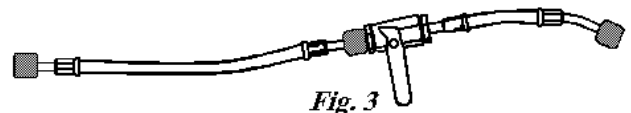

Fig. 3
**Charging Hose Configuration** – One hose 4 to 6 feet long should be attached to a pigtail consisting of a ball type hand valve with a 45° threaded fitting. A low-loss adapter should be connected to the 45° threaded fitting. (Fig. 3)